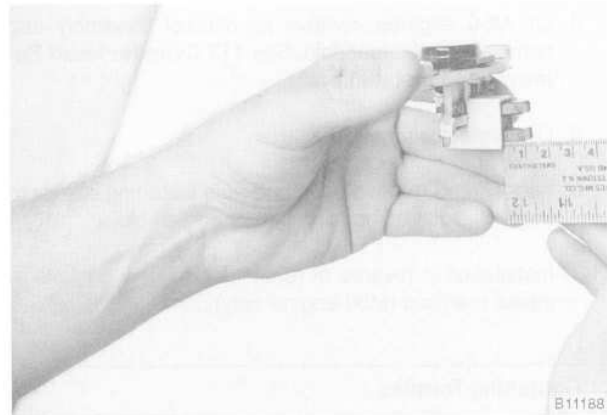

Fig. 7. Regulator brush protrusion being measured.
2. Clean brush contact surfaces and measure brush protrusion. See Fig. 7.
4. Remove solenoid switch mounting screws, and separate solenoid from the starter. See Fig. 7.